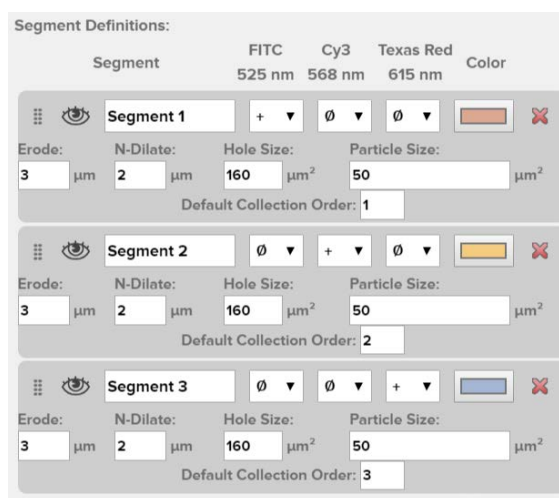

Figure 38: Segment definitions
3. For each Segment Definition box (see Figure 38), choose the **Segment Name** (to be used across all applicable ROIs). Do not use special characters like '\ / * : < > | " ' . ? in the ROI or segment names. This segment name will materialize as a **tag** in the Data Analysis stage. See the **GeoMx DSP Data Analysis User Manual**.